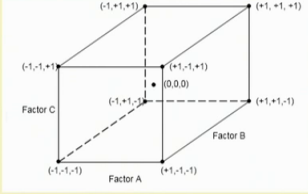

Figure 3: Treatment Combinations with three factors
- The next experiment may be conducted in a region with the center at (2,0) with respect to the current origin. When three variables need to be considered, the same approach as outlined for two variables may apply. As shown in Figure 3, there are nine treatment combinations with factors A, B, and C. To obtain the same amount of information given in this design using the one-variable-at-a-time approach, four sets of experiments, each with seven design points, need to be run. Thus, experiments with one-variable-at-a-time are not cost-effective. However, the main drawback of the one-variable-at-a-time approach is that it cannot detect interactions between two or more factors.